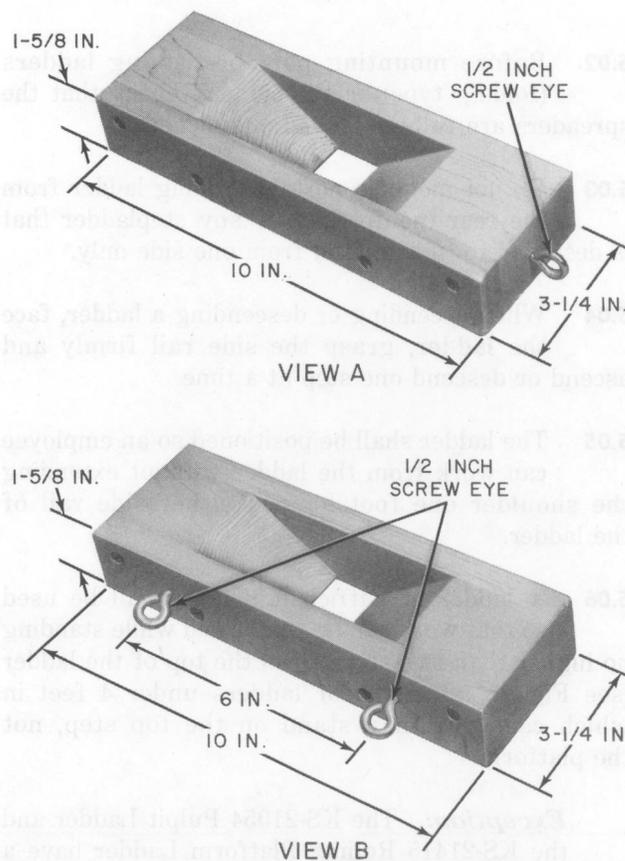

Fig. 1—Ladder Block—ED-99543-70
4.01 The Ladder Block (Fig. 1) is a wood block approximately 10 inches long, 3-1/4 inches wide, and 1-5/8 inches high. A V-shaped depression in the top accepts the wheel of the track supported rolling ladder. It is used to prevent movement of rolling ladders not equipped with brakes.
4.02 The block is shown in View A, Fig. 1. It comes equipped with a single screw eye so that it can be hung from a hook attached to the bottom center rear of the second step of a rolling ladder whenever the block is not used as shown in View A, Fig. 2.
4.03 As an alternate, the block can be modified with two screw eyes as shown in View B, Fig. 1, and when not in use can be attached to the bottom rear of the second step as shown in View B, Fig. 2.